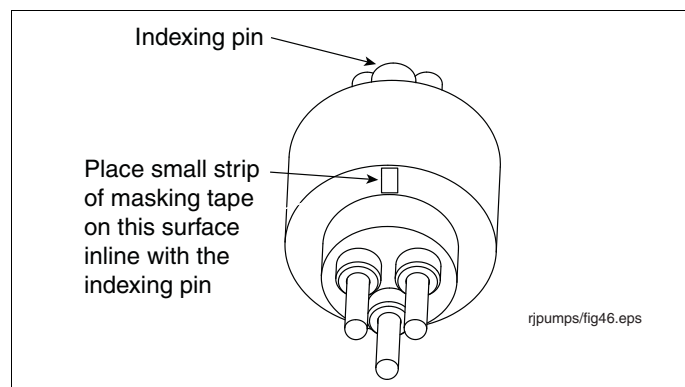

Figure 33. Placing masking tape alignment marker on front of male connector
12. Place a small piece of masking tape on the pins side of the connector in line with the indexing pin (see Figure 33).